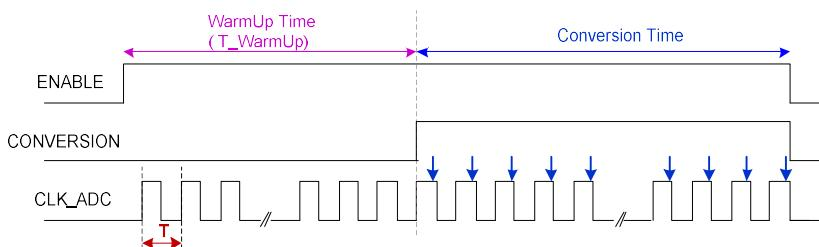

Figure 7-9: Warm Up Time timing
Some sensor may require warm-up sampling prior to real sampling. SIC4340 provides pre-sampling biasing clock before real sampling for each conversion as shown in Figure 7-9. The number of warm up clock can be set by **Nwait_Multiplier[3:0] (M)** and **Nwait_Prescaler[3:0] (N)** as a following equation.